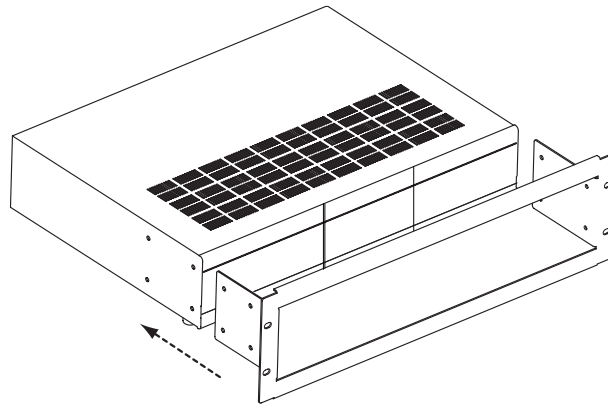

Figure: D-1
1. Slide the rack mount kit onto the S86A chassis from the front as shown in Figure D-1.